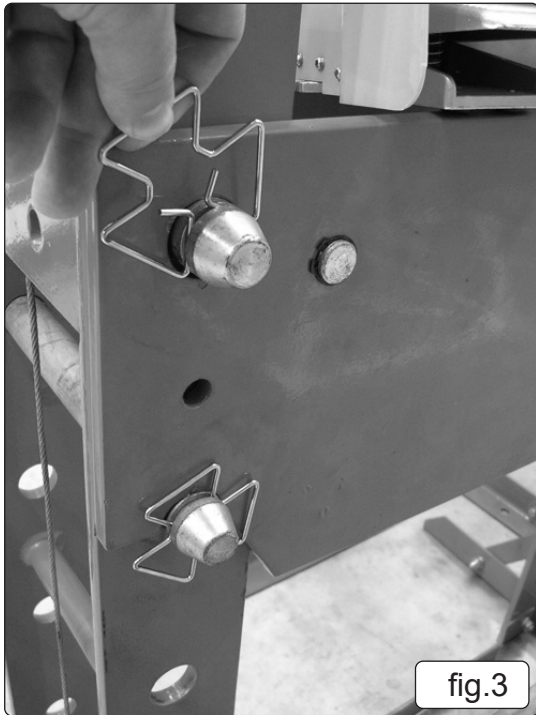
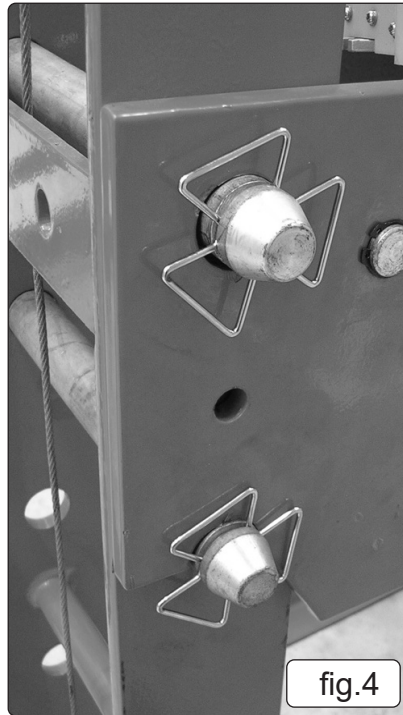

fig.3
fig.4
- 6.1. Set the bed frame at the desired height, if adjustment is required, turn the hand winch until the cable just takes the weight of the bed frame, remove the safety clips (66) from the back of the pins (67), see Fig.3 and withdraw the pins. Use the hand winch to raise or lower the bed frame to the height required, insert pins and safety clips (Fig.4). Slacken off the hand winch so that the pins are taking the full weight of the bed frame.